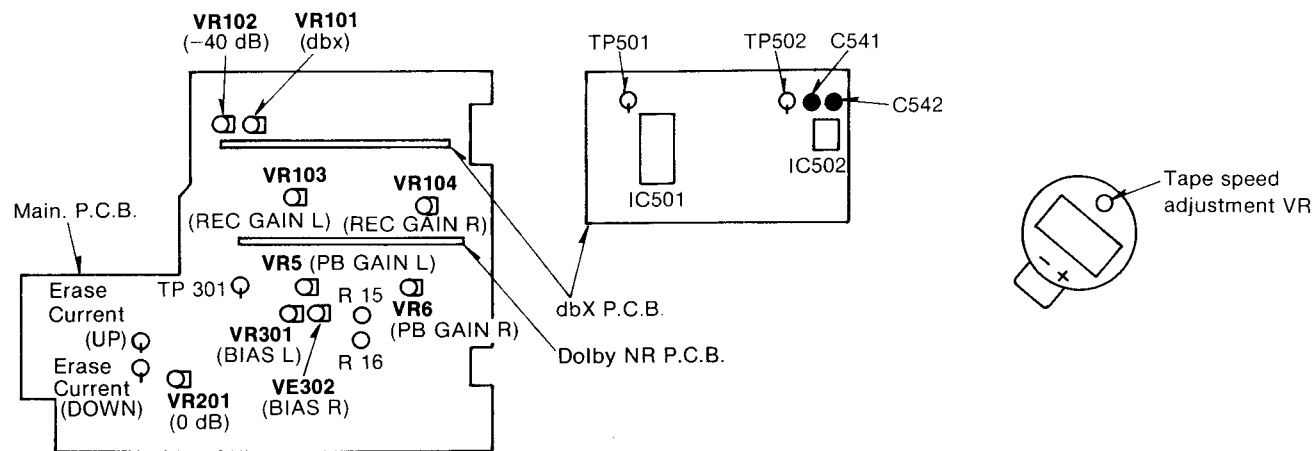
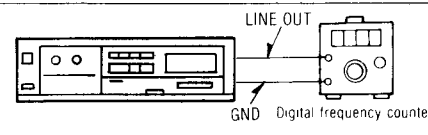

Fig. 1
Fig. 7
<p>Tape speed</p> <p>Condition: • Playback mode</p> <p>Equipment: • Digital frequency counter • Test tape...QZZCWAT</p>	<p>Tape speed accuracy</p> <p>1. Test equipment connection is shown in fig. 7.</p> <p>2. Playback test tape (QZZCWAT 3,000Hz), and supply playback signal to the digital frequency counter.</p> <p>3. Measure this frequency.</p> <p>4. On the basis of 3,000Hz, determine value by following formula:</p> $\text{Tape speed accuracy} = \frac{f-3,000}{3,000} \times 100(\%) \quad \text{where, } f = \text{measured value}$ <p>5. Take measurement at middle section of tape.</p> <p style="text-align: center;">Standard value: ±0.33% (3000±10 Hz)</p> <p>6. If measured value is not within the standard value, adjust it by using the tape speed adjustment VR shown in fig. 1.</p> <p>Note: Please use non metal type screwdriver when you adjust tape speed accuracy on this unit.</p> <p>Tape speed fluctuation</p> <p>Make measurements in same manner as above (beginning, middle and end of tape), and determine the difference between maximum and minimum values and calculate as follows:</p> $\text{Tape speed fluctuation} = \frac{f_1-f_2}{3,000} \times 100(\%) \quad f_1 = \text{maximum value, } f_2 = \text{minimum value}$ <p style="text-align: center;">Standard value: Less than 1%</p>
<p style="text-align: right;">Fig. 7</p>
<p>Playback gain</p> <p>Condition: • Playback mode</p> <p>Equipment: • EVM (Electronic Voltmeter) • Oscilloscope • Test tape...QZZCFM</p>	<p>1. Test equipment connection is shown in fig. 2.</p> <p>2. Playback standard recording level portion on test tape (QZZCFM 315Hz) and, using EVM, measure the output level at LINE OUTs.</p> <p>3. Make measurements for both channels.</p> <p style="text-align: center;">Standard value: 0.4V±0.5 dB (0.02V)</p> <p>Adjustment</p> <p>1. If the measured value is not within the standard, adjust VR5 (L-CH) or VR6 (R-CH). (See fig. 1.)</p> <p>2. After adjustment, check "Playback frequency response" again.</p>
<p>Erase current</p> <p>Condition: • Record mode</p> <p>Equipment: • EVM (Electronic Voltmeter) • Oscilloscope • Test tape (reference blank tape) ...QZZCRZ for Metal</p>	<p>1. Test equipment connection is shown in fig. 2.</p> <p>2. Insert the metal tape.</p> <p>3. Press the record button.</p> <p>4. Read voltage on the oscilloscope.</p> <p>5. If the measured value is not within the standard, adjust VR302 (R-CH) or VR301 (L-CH). (See fig. 1.)</p> <p>6. Repeat steps 2-4 for confirmation.</p> <p>7. Repeat steps 2-4 for confirmation.</p> <p>8. Repeat steps 2-4 for confirmation.</p> <p>9. Repeat steps 2-4 for confirmation.</p> <p>10. Increase the recording level and repeat steps 2-4.</p>
5. If the measured value is not within the standard, adjust VR302 (R-CH) or VR301 (L-CH). (See fig. 1.)
**Adjustment (A)**
When the curve is not within the standard, adjust VR302 (R-CH) or VR301 (L-CH). (See fig. 1.)
1. Test equipment connection is shown in fig. 7.
6. If measured value is not within the standard value, adjust it by using the tape speed adjustment VR shown in fig. 1.
1. If the measured value is not within the standard, adjust VR5 (L-CH) or VR6 (R-CH). (See fig. 1.)
1. Short points (A) and (B) on the main circuit board. (See fig. 1)
3. If the erase current is less than 140 mA, open the DOWN point (B).
4. If the erase current is more than 170 mA, open the UP point (A).